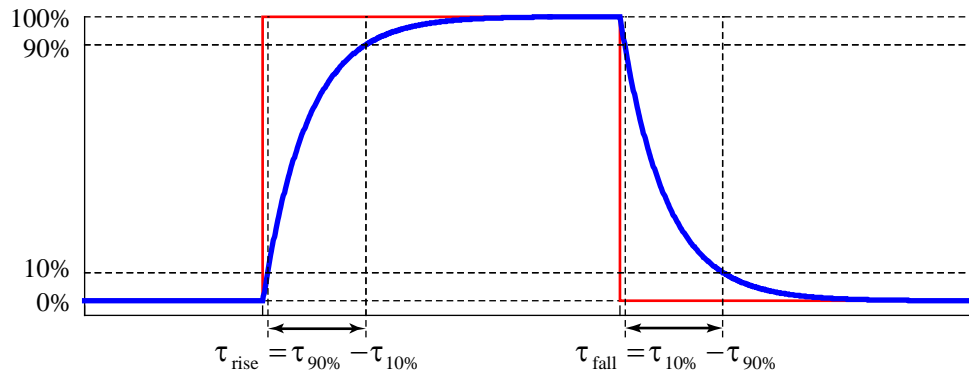

Figure 17: Rise time and fall time
The rise time, τ_{rise} , of a waveform is defined as the time it takes for the waveform to rise from 10% to 90% of its peak-to-peak value, as shown in Figure 17. The fall time, τ_{fall} , is similarly defined as the time to fall from 90% to 10%.
- d. Measure the rise time and fall time of V_{out} using the 'Rise-time' and 'Fall-time' options in the 'Measure' menu. The rise time is the time it takes for the rising phase of the waveform to go from 10% to 90% of the peak-to-peak value. The fall time is the time it takes the falling phase of the waveform to go from 90% to 10%, as shown in Figure 17.